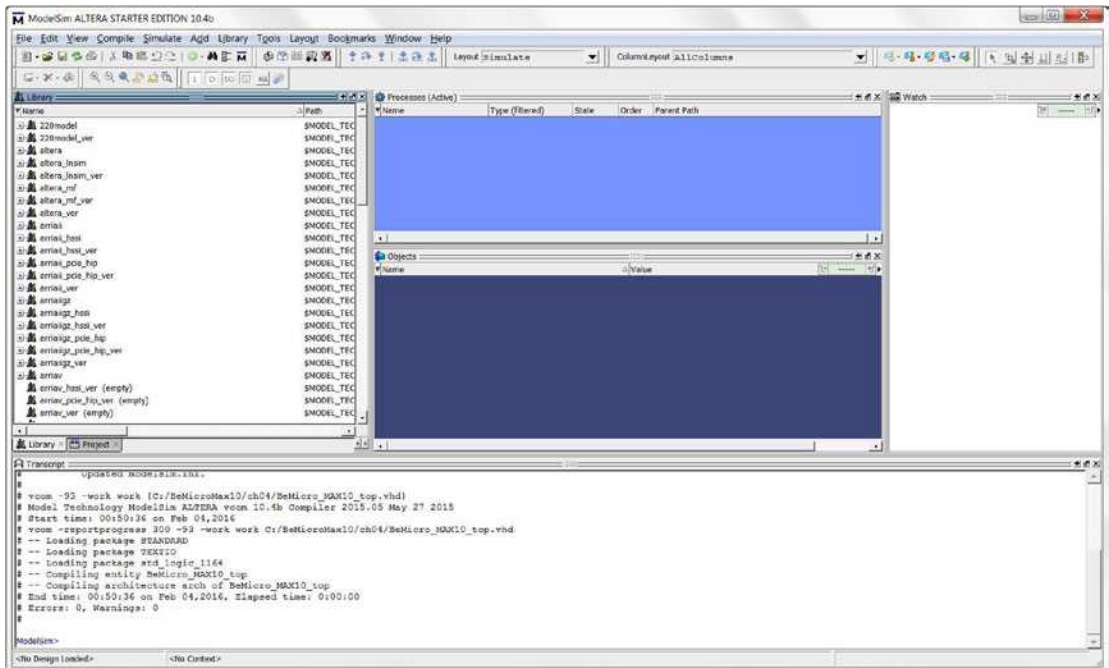
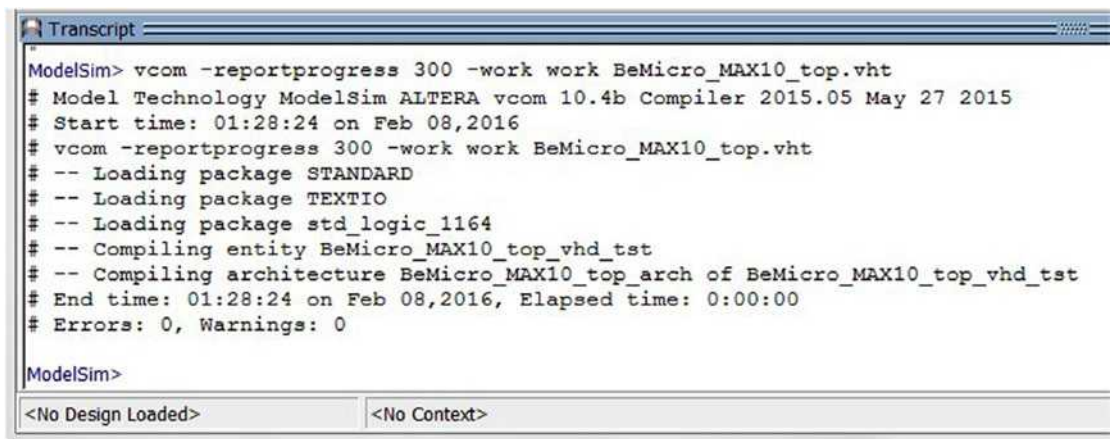
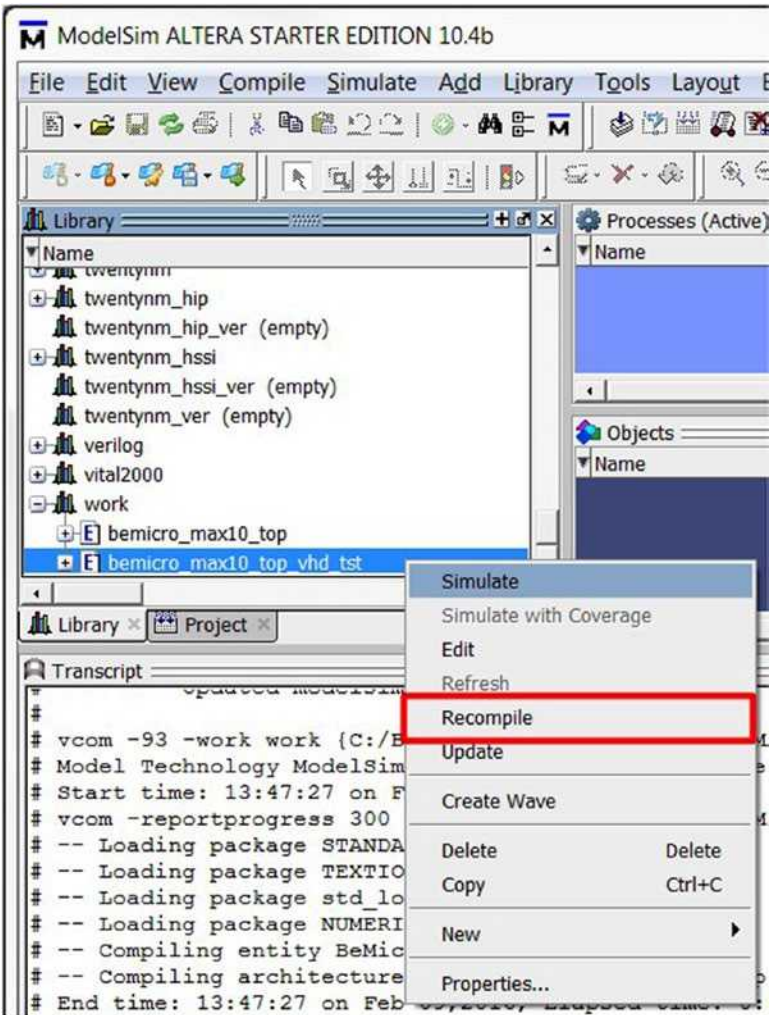

Figure 4-35. ModelSim ALTERA STARTER EDITION
Figure 4-36. ModelSim ALTERA STARTER EDITION
Figure 4-42. Recompile `bemicro_max10_top_vhd_tst`
- ModelSim ALTERA STARTER EDITION should open (Figure 4-35). In the transcript, you should find the last line is **ModelSim►**. Enter the following Tcl command and hit Enter. Once completed you should see Figure 4-36 in the Transcript log.
- 8. Right-click the `bemicro_max10_top_vhd_tst`, and click **Recompile** (Figure 4-42). This will recompile the test bench again. Once completed you should see Figure 4-36 in the Transcript log.